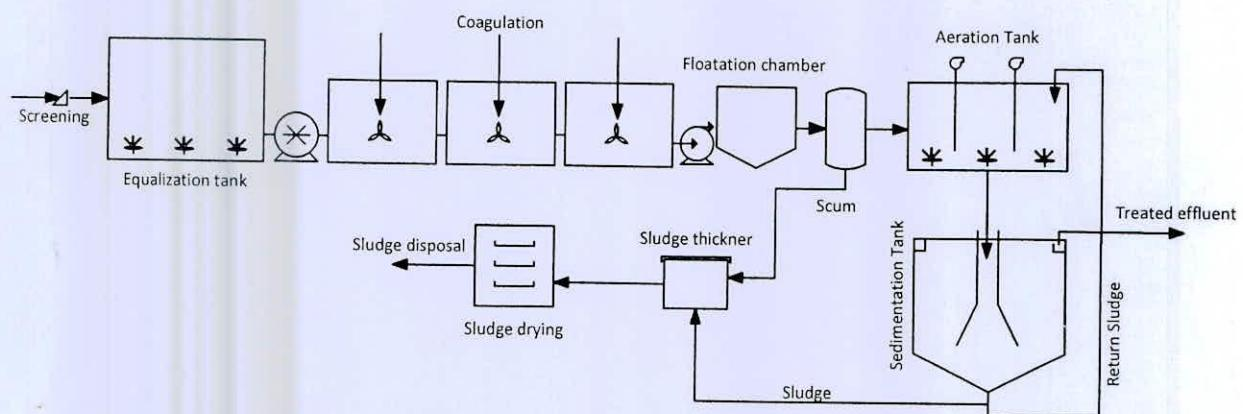

Figure 3 [for Question no. 8(c)]
- (c) The following schematic diagram (**Figure 3**) represents the treatment processes adopted at an ETP in a Textile Industry. Being the Environmental Engineer in charge of ETP operations, it is your responsibility to identify the possible reason(s) for the problems and briefly suggest remedial measure(s) for each of these. Also, identify the sampling locations on the diagram for each problems, if required.
Figure 3 for Question 4(b)